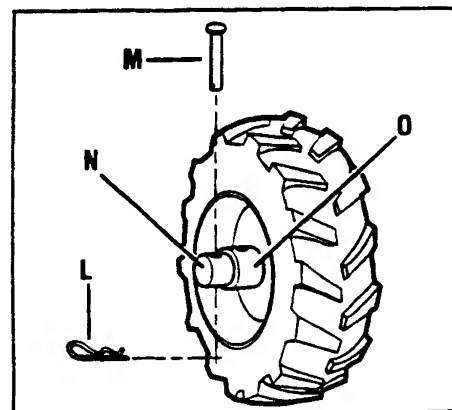

Fig. 2-3: Wheel in FREEWHEEL position (wheel drive pin through wheel shaft only).
2. Remove the hairpin cotter (L, Fig. 2-3) and wheel drive pin (M) from the wheel hub (O) and wheel shaft (N).
3. Slide the wheel fully inward on the wheel shaft (N, Fig. 2-3). Reinstall the wheel drive pin (M) through the wheel shaft only (not through the wheel hub). Secure the wheel drive pin with the hairpin cotter (L), pushing the hairpin cotter in as far as it will go. The wheel should now spin freely (freewheel) on the wheel shaft. Repeat with the other wheel.